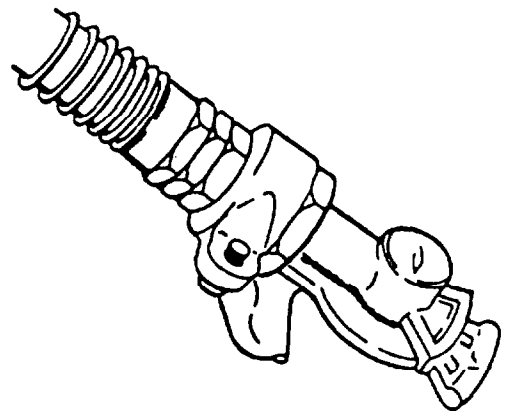

Figure 2-2. Trailer Air Hose Glad-Hand Connectors.
- b. Air Brake Connectors. Two air hoses connect the trailer brakes to the towing vehicle brake system with glad-hand connectors (figure 2-2). When the trailer is not connected to the towing vehicle, the connectors are stowed on dummy couplers on the trailer to prevent damage and contamination.